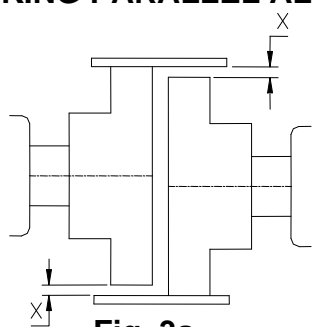

Fig. 3a
- ◆ **Using straight edge (fig 3a):** Align straight edge on OD of one flange, measure gap 'X' at 4 places 90° apart without rotating shafts. Gap 'X' should be less than the allowable initial parallel misalignment (P) mentioned in Table 'A1'.